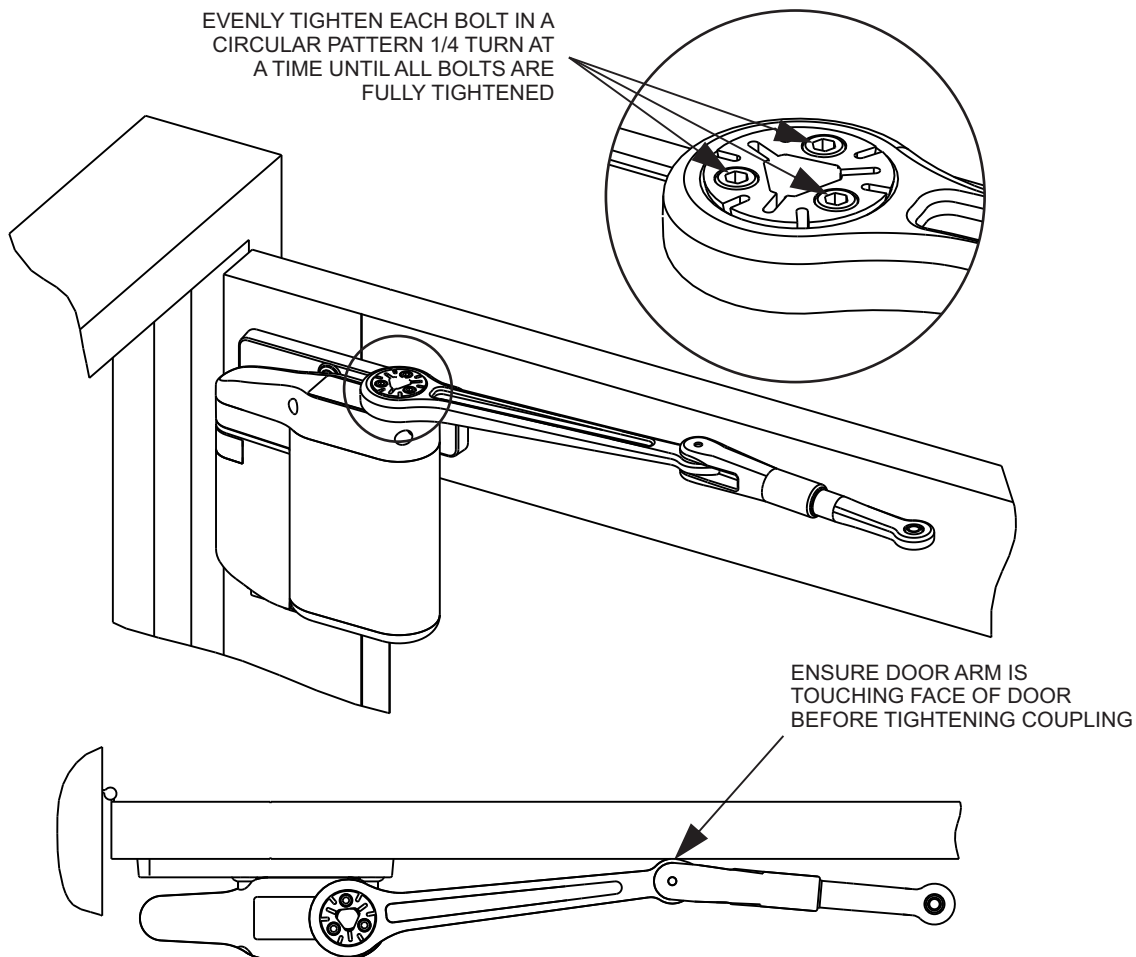

Figure 7
1. Refer to Figure 7, and, with the door arm coupling screws facing up and the door arm against the door rail, POSITION the larger end of the door arm onto the operator output shaft.